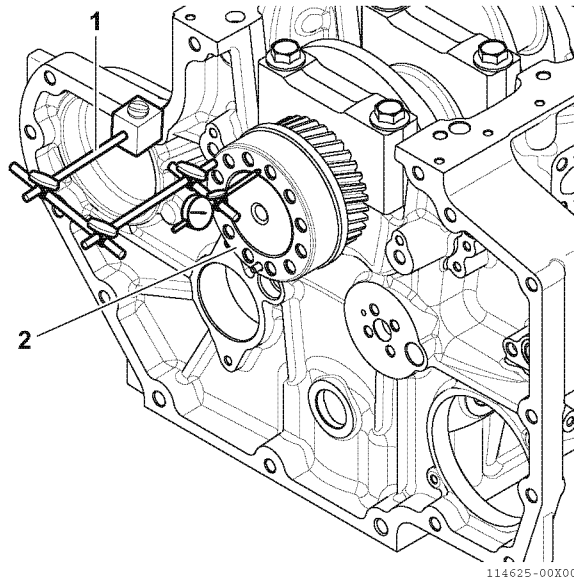

Fig.13-3
- 1 - Install a dial gauge (1, Fig.13-3) on the cylinder block. Move the crankshaft (2, Fig.13-3) back and forth to measure the end play. Record the measurement.